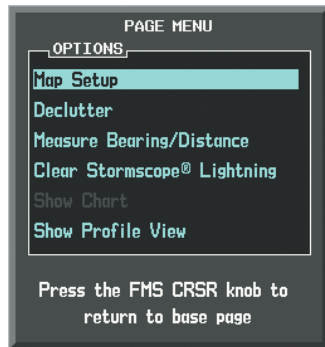

Figure 6-63 Navigation Map Page Menu
- 3) With 'Map Setup' highlighted, press the **ENT** Key (Figure 6-63).